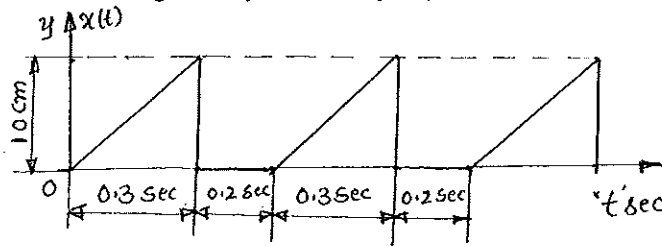

Fig. Q1(c)
- c. Represent the periodic motions given by following Fig Q1(c) by harmonic series.